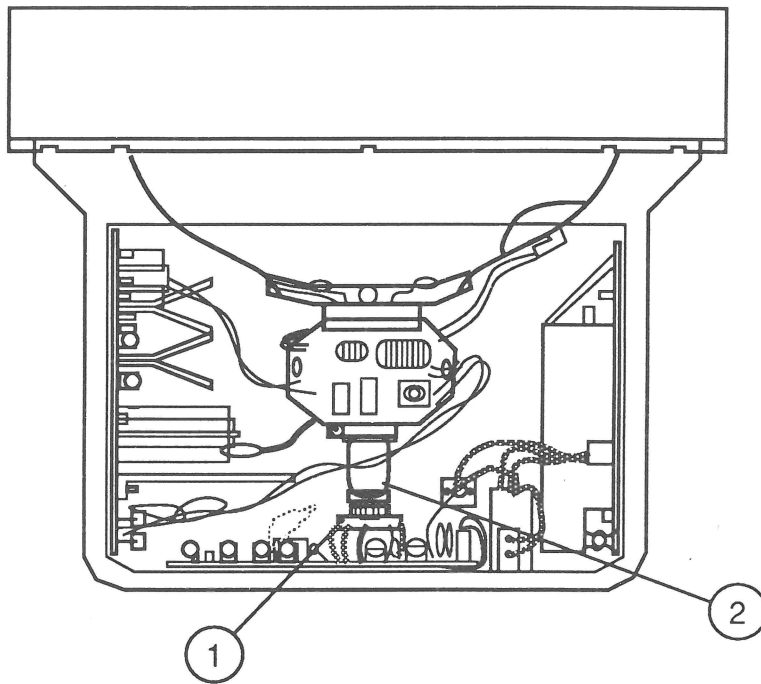

FIGURE 41
4. Replace the CRT socket (Figure 41, #1) on the neck of the CRT (Figure 41, #2).